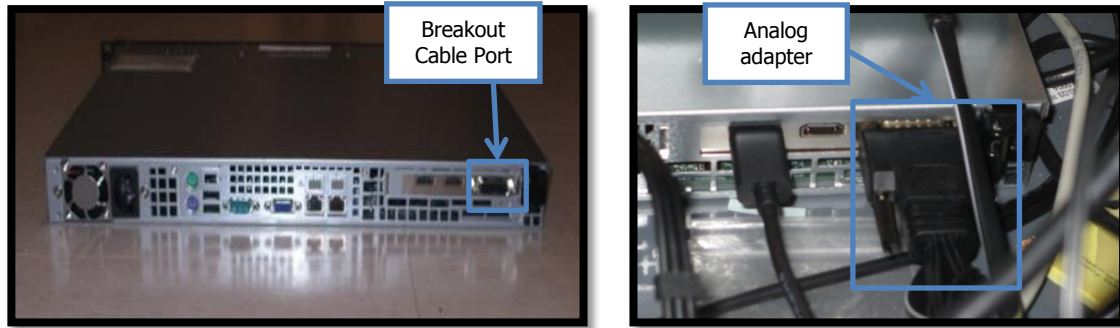

Figure 6.4. Composite Port Location and Analog Adapter.
- a. Figure 6.4 shows Volicon Scout rear view and location of the Composite port.
- b. Connect the Analog Adapter to the outer most port located on back, right hand side of the Volicon Scout as shown on Figure 6.4.